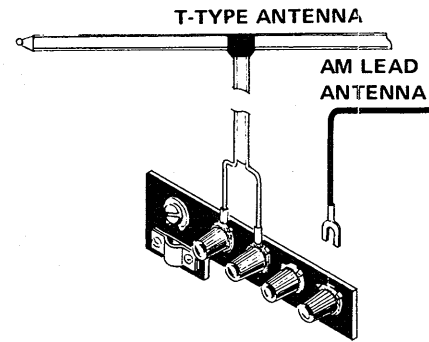

Fig. 6
- If the receiver is to be located in a wooden building and stations are nearby, use the T-type antenna which comes with the SX-626. As shown in Fig. 6, connect the feeder terminals of the antenna to the FM antenna terminals. Stretch out the antenna proper and secure it to the ceiling or a wall in such a manner that pickup is optimum, as determined by listening to the station to be received. Refer to "FM Reception" on page 9.